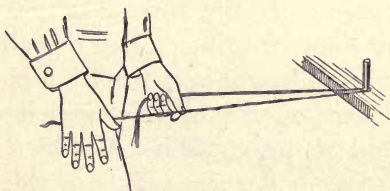

FIG. 230. — UNTWISTING THE STRANDS OF THREAD.
**Thread.** — A good thread is necessary in making strong and lasting repairs. Good linen must be selected, and considerable care exercised in making the thread. Hold one end between the second and third fingers of the left hand; pass the thread around a nail or hook and bring back, catching between the thumb and finger of the same hand. With the right hand, roll the thread downward over the knee, as shown in Fig. 230, and pull it apart with a jerk. The rolling untwists the strands and
Holding the thread as shown in Fig. 230, twist it by rolling it with the right hand over the knee. It is kept from untwisting by catching it up with the thumb and finger of the left hand. The threads are not doubled before twisting.